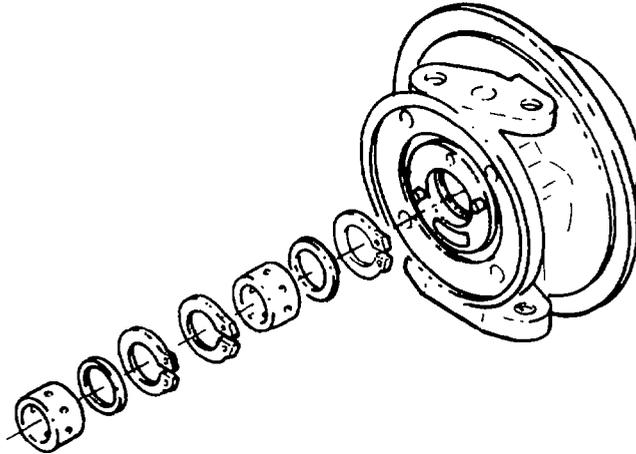

Fig. 151 — Installing Internal Components
- f. Still working from the compressor end, install the turbine end wear washer (item 15), journal bearing (item 13) and inboard retaining ring (item 16) (see fig. 151).